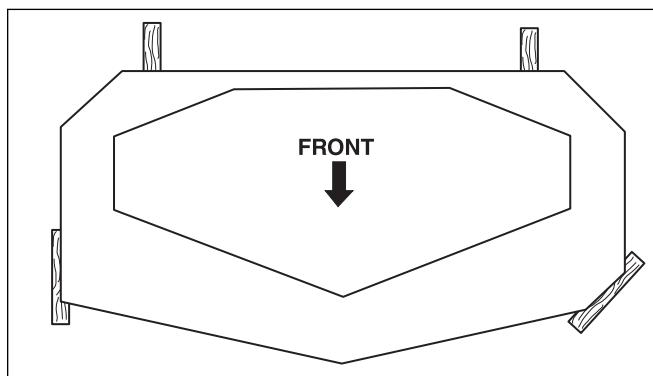

Figure 40. 2 x 4 Locations
- Block up the mower deck until all hanger chains are slack. Refer to Figure 40.
- Place 2 x 4 blocks under each corner of the mower deck with the 3-1/2" sides being vertical. Place a 1/4" (0,64 cm) thick spacer on top of the rear 2 x 4 blocks. See Figure 40.